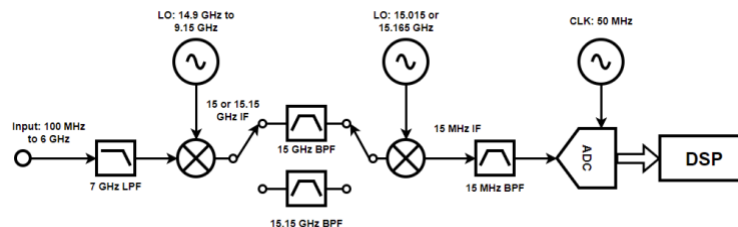

Figure 3 - Possible Spectrum Analyzer Block Diagram
There are major differences between the block diagrams of an SA and a VNA. A typical SA block diagram is shown in Figure 3. Double conversion (double heterodyne) is required to ensure that mixer images are not an issue. Additionally, the Local Oscillator (LO) sources, particularly the first one in the block diagram below, must be free of spurious signals, and high order intermodulation products (IMs) must now show up in the 15 GHz IF. If IMs cannot be avoided, then an additional IF path must be switched in, and the first LO offset changed accordingly. In other words, a 15.15 GHz IF filter might be switched in instead of the 15 GHz filter, and the first LO would be moved up by 200 MHz for this IF path and only for frequencies where there are unavoidable spurs in the first IF frequency.